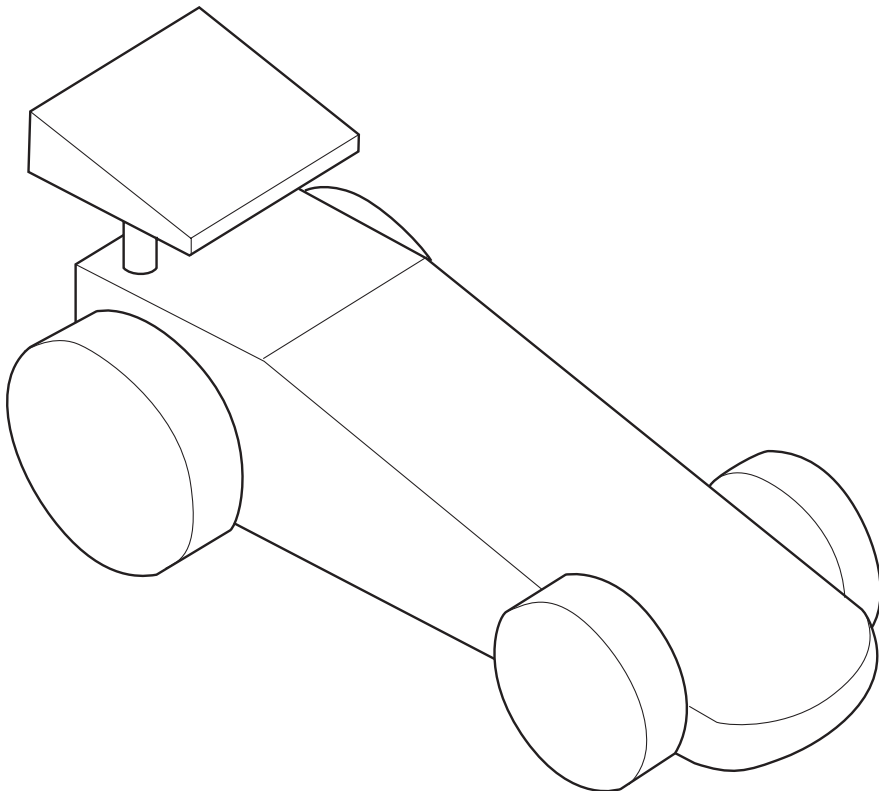

Fig. 3
- (e) Add sketches and notes to Fig. 3 to show **one** improvement you could make to the toy.